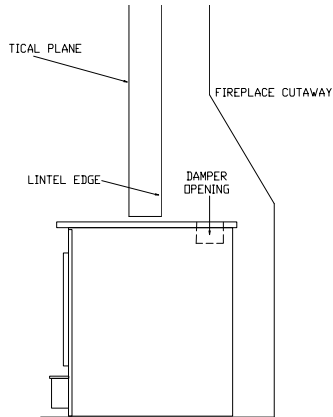

FIGURE 2 POSITIONING
When positioning heater, the following conditions **MUST** be met! (See Figure 2).
1. The front of damper opening must be positioned **BEHIND** rear edge of the lintel to ensure proper draft. (See Figure 2).
After unit is positioned as shown in (Figure 2), mark mounting position of trim panels as follows: